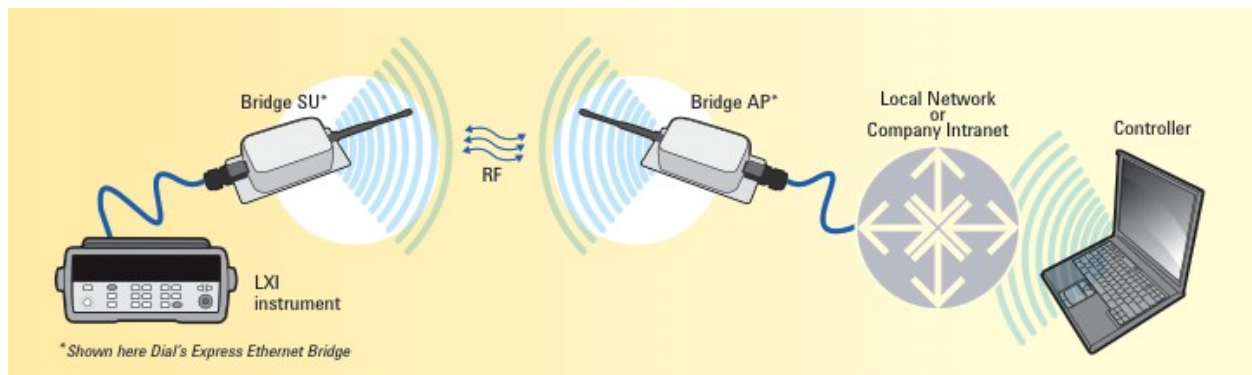

Figure 2. Long-range Ethernet bridge setup
- Using a Long-range Ethernet bridge -- Consists of two or more transceivers that each connect to an Ethernet network. The transceivers typically use a 900-MHz ISM-band communication protocol. The bridge setup is shown in Figure 2.